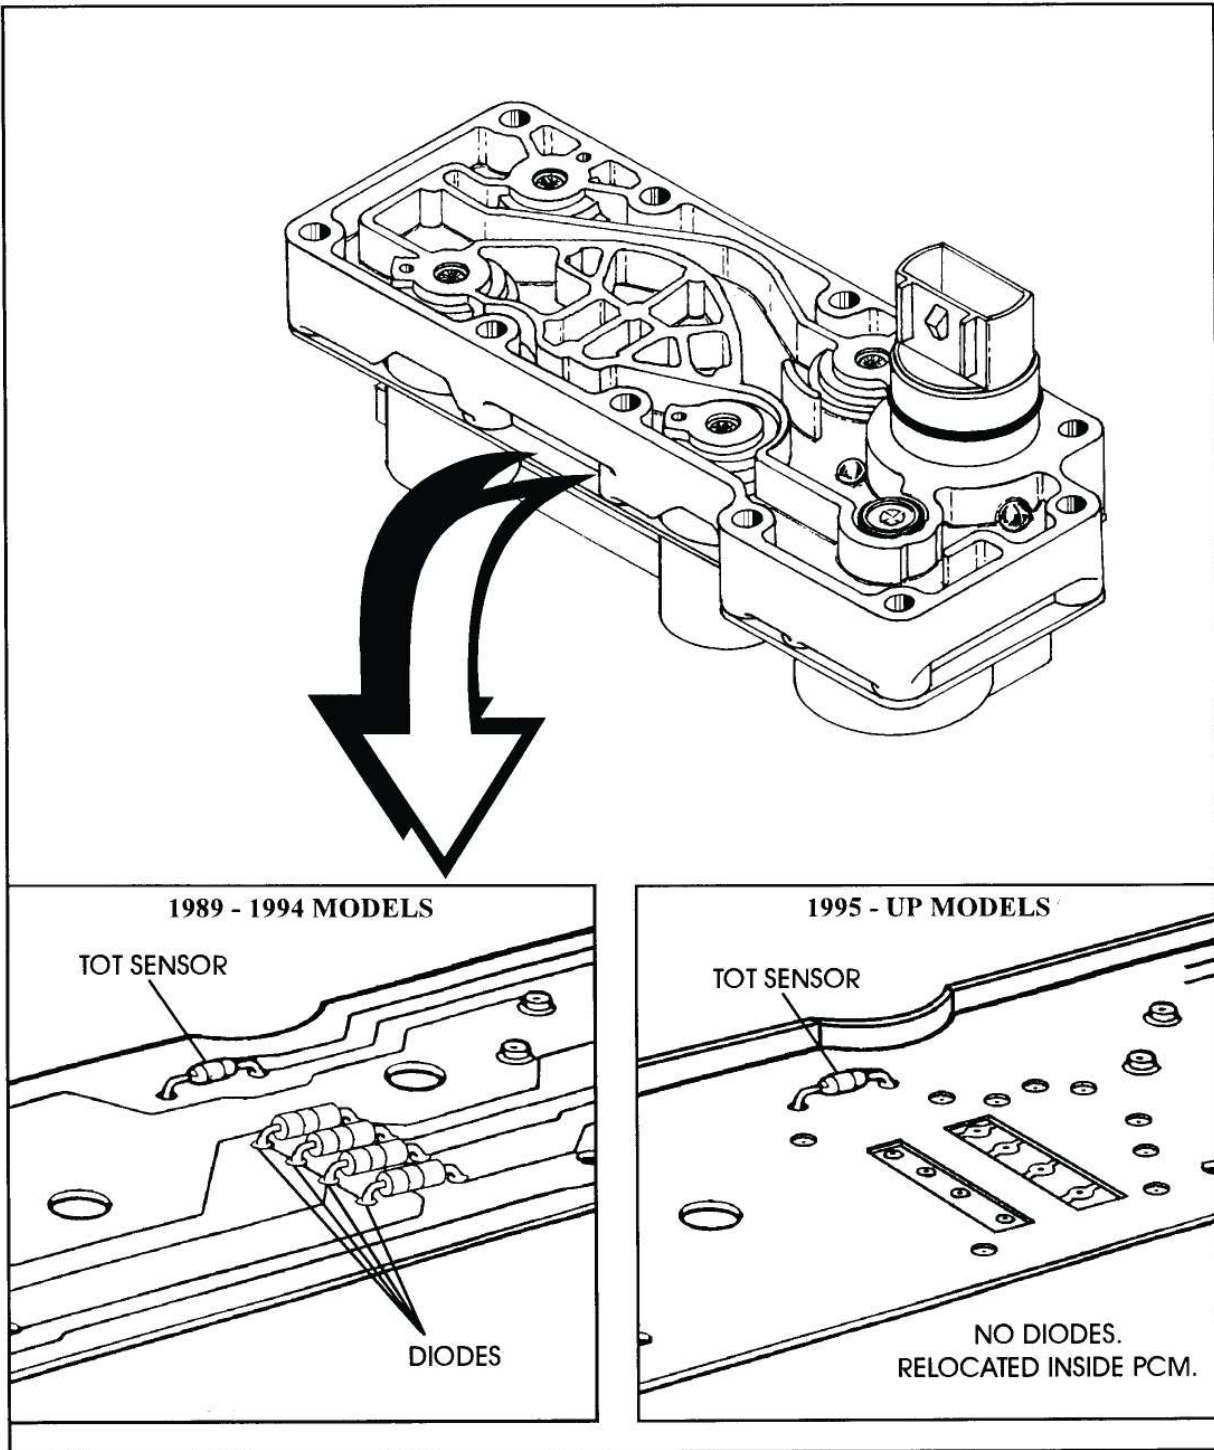

Figure 54
**CHANGE:** Beginning at the start of production for 1995, all models of the E4OD transmission were produced using a new design solenoid pack, that will not interchange with previous models, as the internal diodes have been eliminated and put into the PCM (See Figure 54)
*They will not interchange because in 1995 models the diodes for the solenoids were moved out of the solenoid pack and placed into the PCM (See Figure 54).*